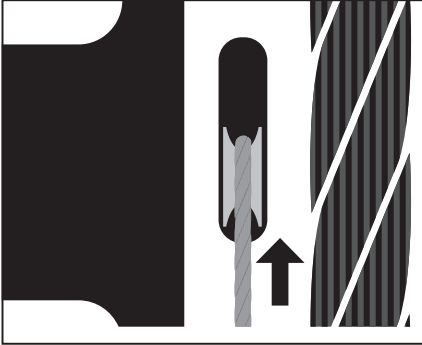

Fig. 10
4. Feed wire rope upwards (Fig. 10).